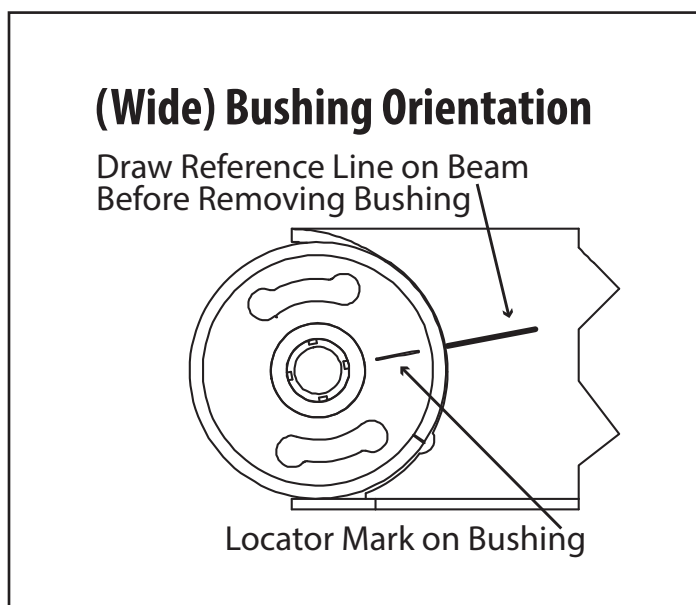

Figure 8.
- Using locator mark on old bushing as a reference, draw a line on the beam (Figure 8). The line will be used to orient the new bushing during installation.
- 4.2 Insert the threaded rod/end cap assembly through the beam eye. Place the tapered end of the cone onto the threaded rod and center the cone on the beam eye. Line up locator mark on new bushing with line drawn on beam during bushing removal (Figure 8).